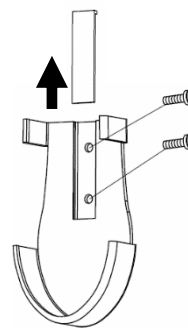

Fig. 13a
2. Remove the screw cover and install the holder using the 2 screws and re-install the screw cover. (Fig.13a).